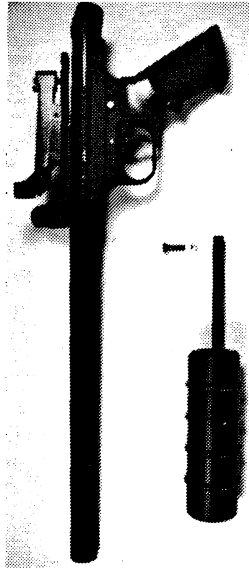

Figure 2
5. Remove pump screw and shock buffer as in Figure 2.
The APEX ELITE is equipped with a replaceable shock buffer. The buffer is located below the pump rod. To insure proper performance of your APEX ELITE this part should be checked after every use. If it shows signs of excessive wear replace buffer. (See Figure 2)